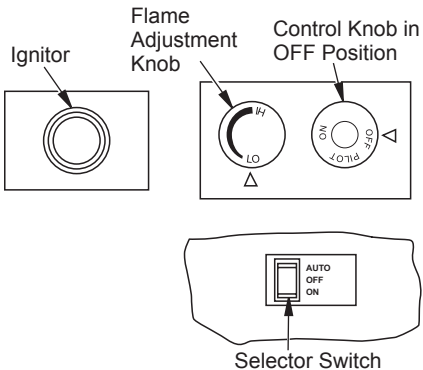

Figure 34 - Control Knob, Ignitor Button and AUTO/OFF/ON Switch
4. Press in and turn control knob clockwise  to the OFF position (see Figure 34, page 24).
5. Wait five (5) minutes to clear out any gas. Then smell for gas, including near the floor. If you smell gas, STOP! Follow "B" in the safety information, column 1. If you don't smell gas, go to the next step.
- Press in and turn control knob counterclockwise ↶ to the PILOT position. Press in control knob for five (5) seconds (see Figure 34).